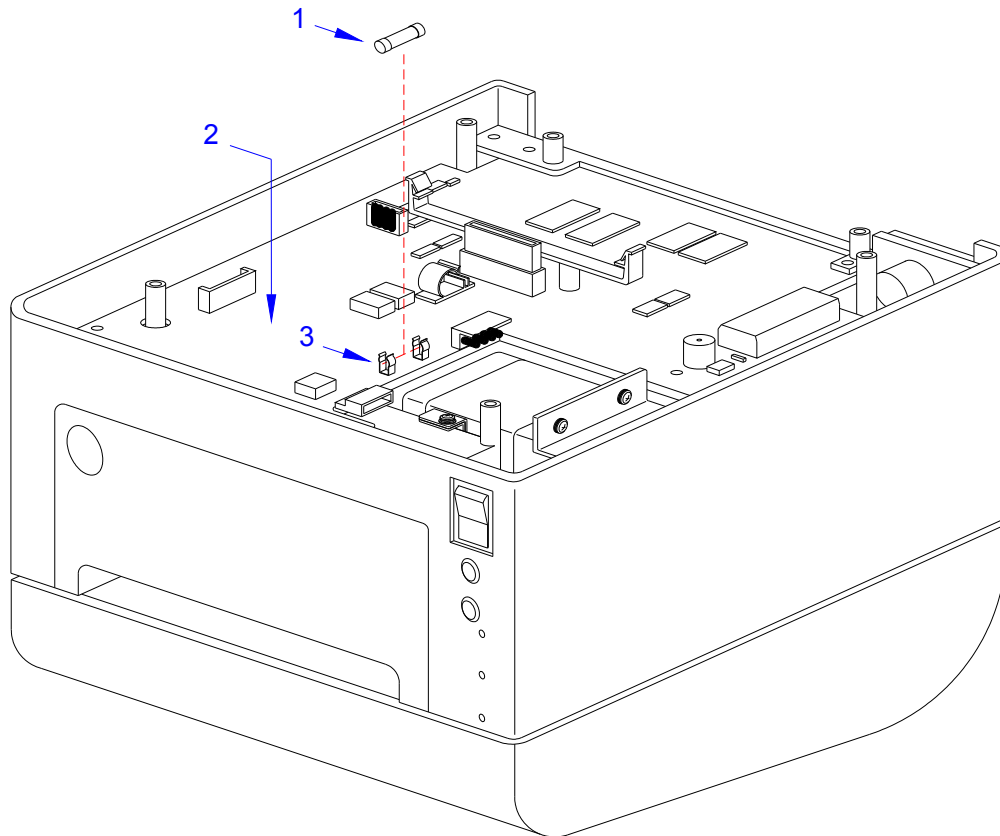

Figure 4-4, Fuse Replacement
- 3 Locate fuse (1), (See Figure 4-4) on the main circuit board (2).
- 4 Detach the defective fuse (1) from the metal holders (3).
- 5 Attach a replacement fuse (1) to the metal holders (3) on the main circuit board (2).